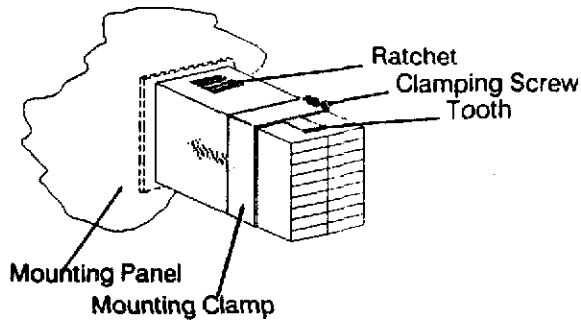

Figure 2-2 Panel-mounting a Controller
2. Slide the mounting clamp into place on the Controller (see Figure 2-2) and push it forwards until it touches the rear face of the mounting panel. The mounting clamp has teeth which project to the rear and these will engage in ratchets moulded into the top and bottom faces of the Controller housing.
1. Loosen the two clamping screws (see Figure 2-2).